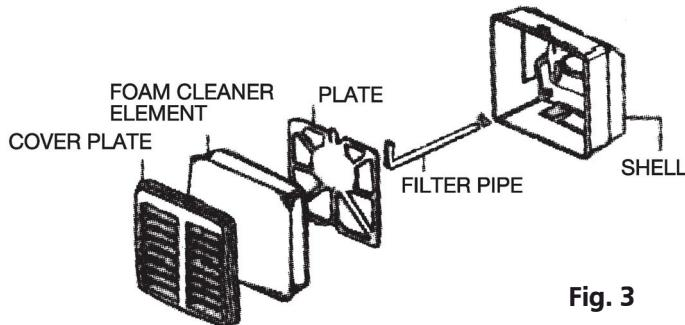

Fig. 3
5. Check air cleaner element (as shown on Fig.3)